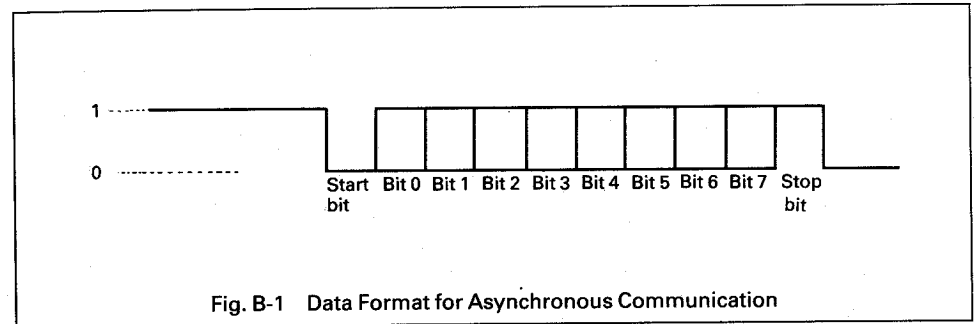

Fig. B-1 Data Format for Asynchronous Communication
- (1) With asynchronous data transmission, a start bit (0) is attached to the beginning of the send data to indicate that transmission has begun. As shown in Fig. B-1, the line level is held to "1" when no data is present; the beginning of data transmission is indicated by the dropping of the line level to "0". This is followed by the bits of the send byte, starting from the least significant bit (LSB), and terminating with a stop bit ("1"). The stop bit indicates that transmission of one character has been completed. Stop bits may be either 1 or 2 bits in length. The duration of each bit depends on the bit rate. For example, if the bit rate is 300bps (bits per second), the duration of each bit is 3.3 msec.